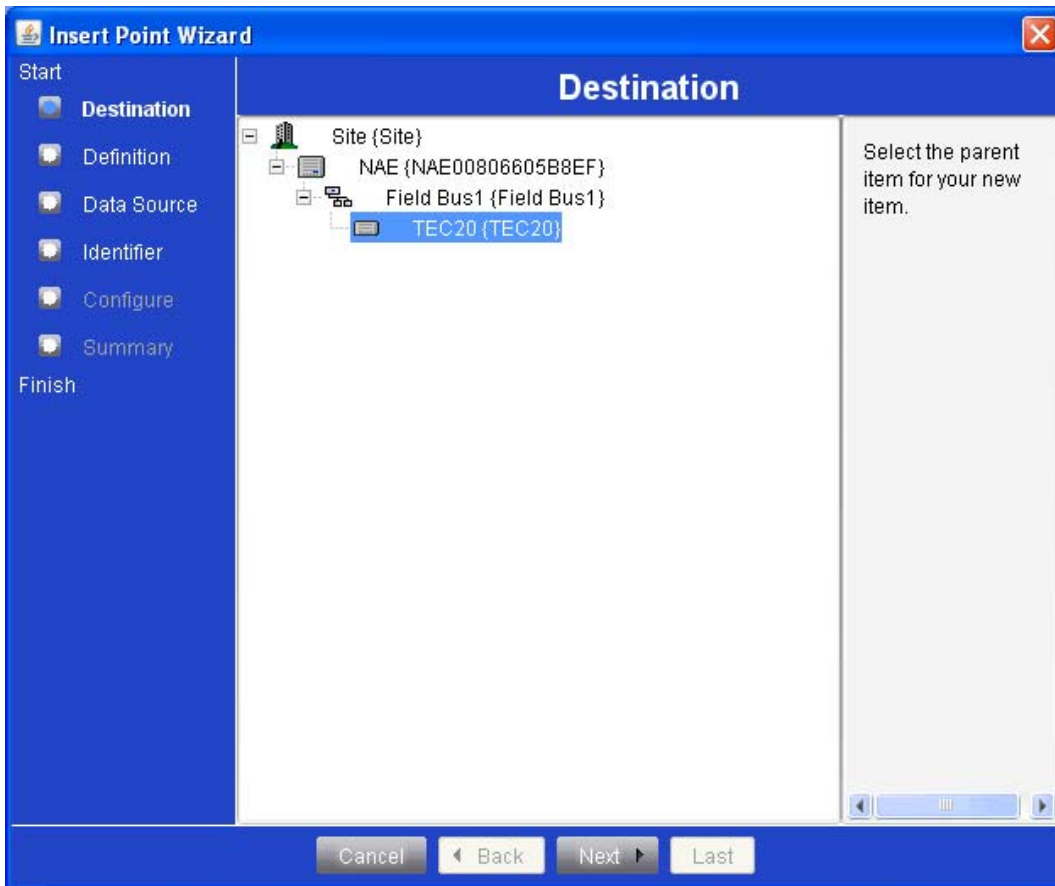
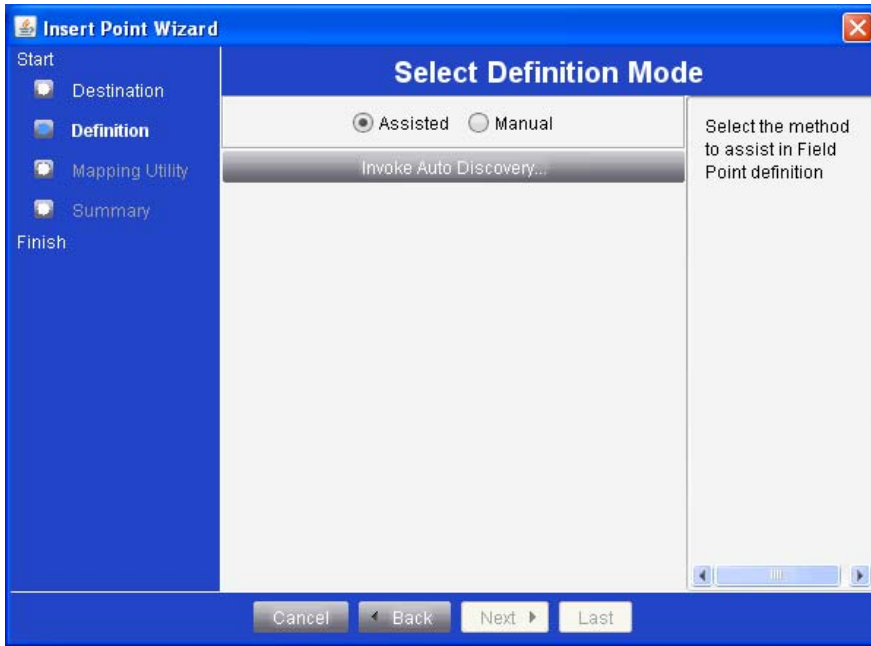

Figure 48: Insert Point Wizard - Destination Screen
Figure 49: Insert Point Wizard - Select Definition Mode Screen
Note: An **Extension Wizard** screen may appear after you click **Finish**. Close the **Extension Wizard** by clicking **DONE** to go to the **Insert Point Wizard - Destination** screen (Figure 48). In the **Insert Point Wizard - Destination** screen, you can insert/associate a TEC Wireless Thermostat Controller as field points to the TEC20-6C Coordinator (field device) you just created.
8. Select **Field Point** on the drop-down menu to display the **Insert Point Wizard - Destination** screen (Figure 48).
9. Select the destination TEC20 Coordinator from the navigation tree and click **Next** (Figure 48) to open the **Insert Point Wizard - Definition** screen (Figure 49).